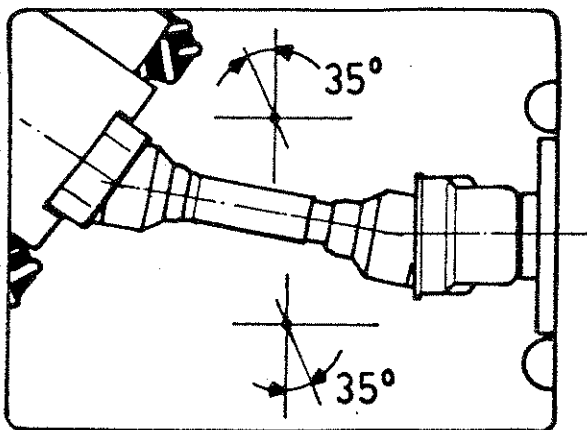

FIG. 2
36. Always disengage the power take-off when the Cardan (P.T.O.) shaft is at too wide an angle (it should never be more than 35° - Fig.2) and when it is not in use.